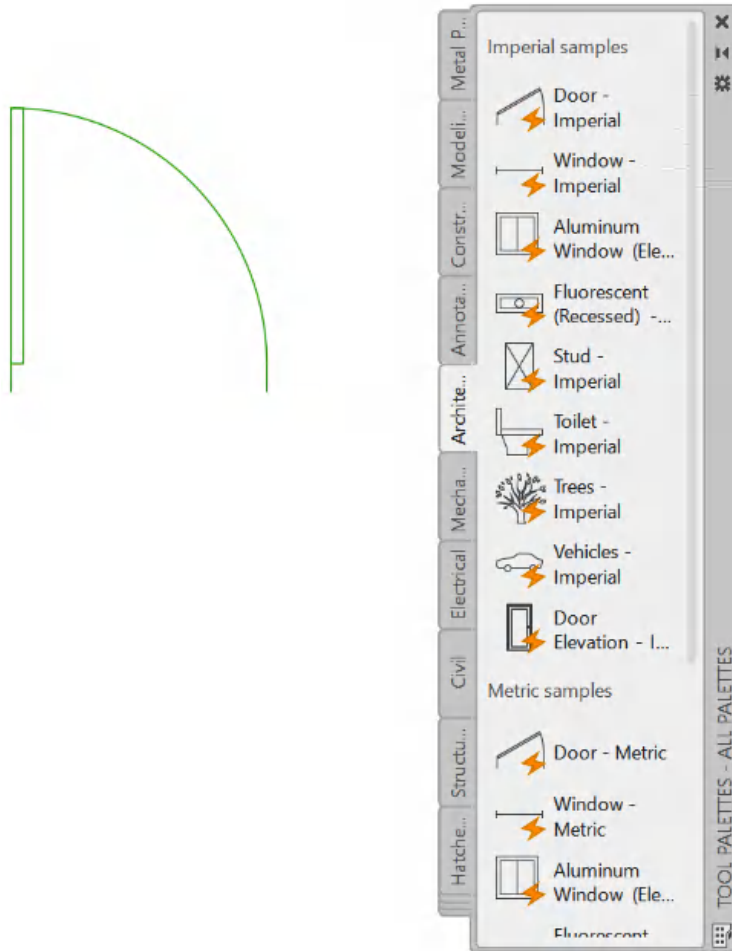

Figure 9.25: The Tool Palettes palette with the Door – Metric block
2. Select the **View** tab on the ribbon and click on the **Tool Palettes** icon in the **Palettes** panel. The **Tool Palettes** palette will appear on the screen, as shown in *Figure 9.25*. You can also see the **Door-Metric** dynamic block.
3. The **Tool Palettes** come with many pre-installed tabs and blocks; you can see the **Architecture** tab is current in *Figure 9.25*.